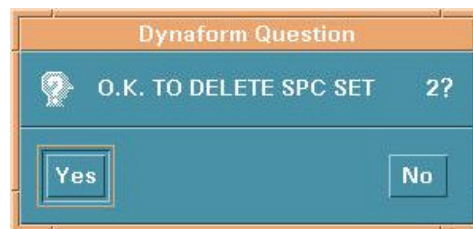

Figure 6.7.8 Delete SPC Set Question
- Confirm the delete in the DYNAFORM Question window (Figure 6.7.8).